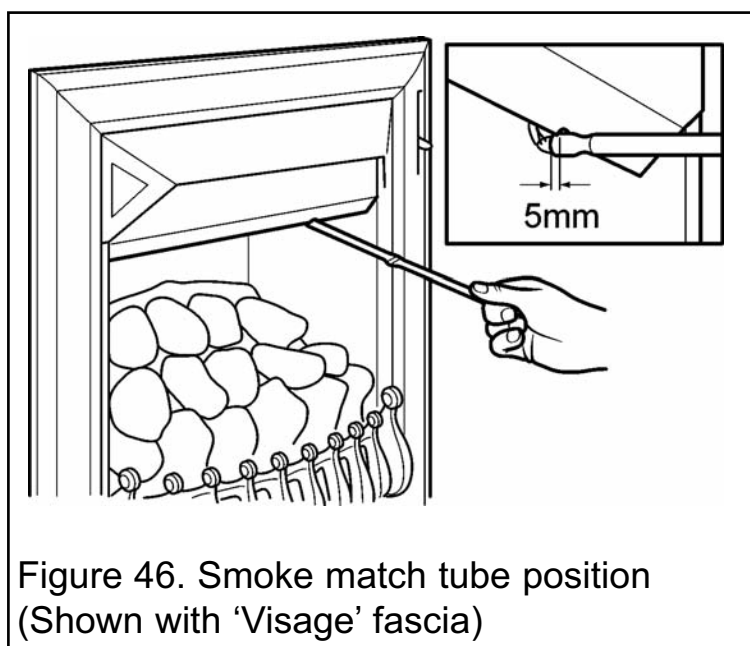

Figure 46. Smoke match tube position
4. The smoke match should be placed horizontally into the convection box at the right hand side. There is a notch in the black cross member. Insert the tube so that the neck of its flared end is 5mm passed and in contact the cross member (See figure 46).